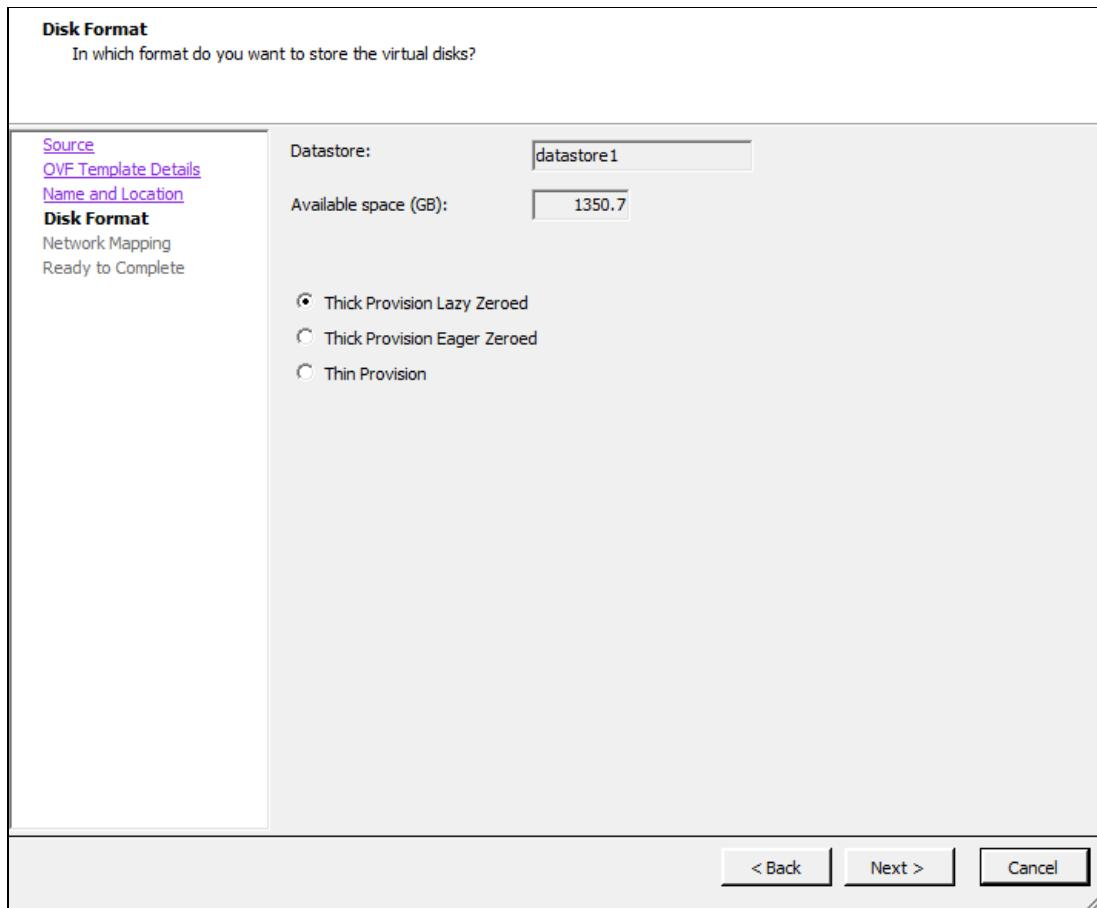

Figure 3-36 Disk Format panel
6. In the Disk Format panel (Figure 3-36), keep the default and click **Next**.